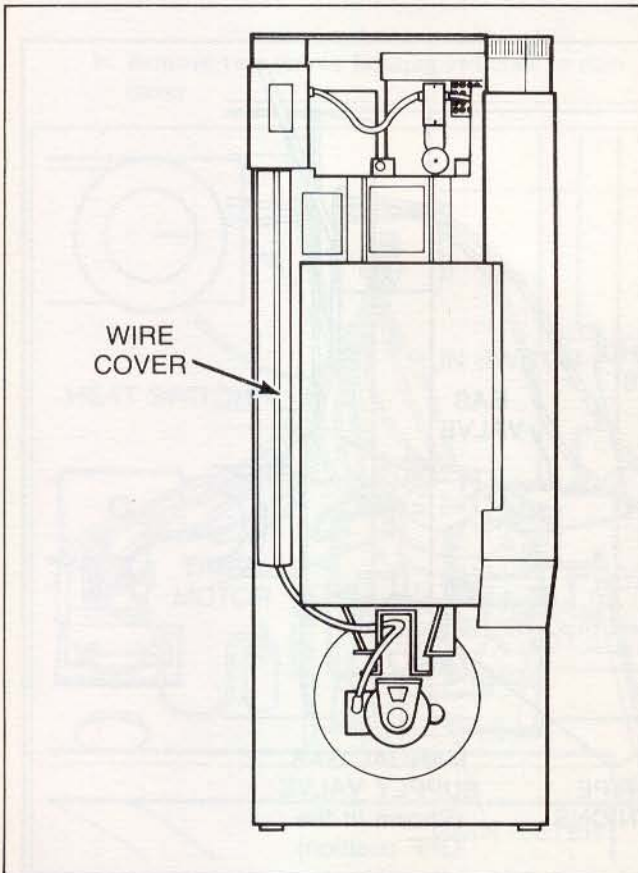

Figure 7
- f. Remove Phillips head screws holding wire cover to rear of tumbler, *Figure 7*.